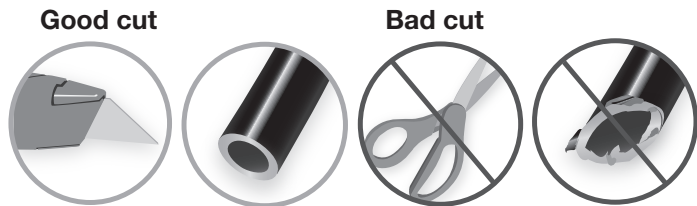

fig. 9
1. Cut the air line in half. Make clean, square cuts with a razor blade or hose cutter (fig. 9). Do not use scissors or wire cutters.